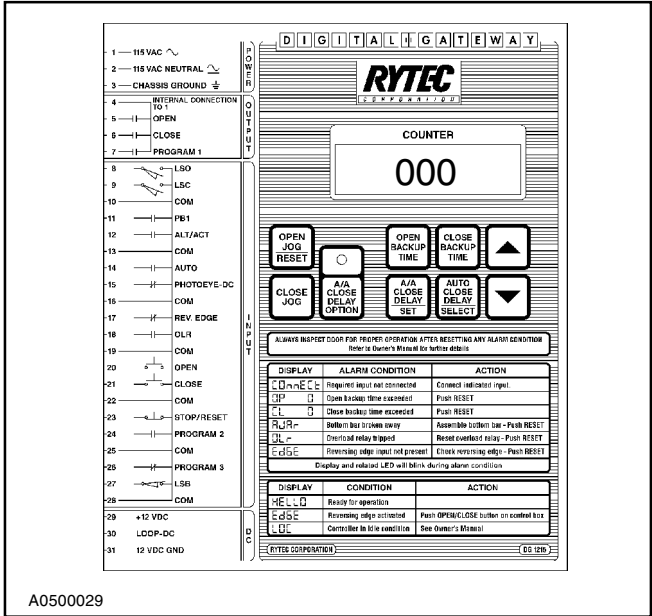

Figure 19
1. To enter the programming mode, press and hold both the OPEN and CLOSE Backup Timer buttons for three seconds. The display will change to three 0's as shown in Figure 19. To continue the programming mode, you will have to enter the three-digit security code. Contact the Rytec Customer Support Department at (414) 677-9046 for the code